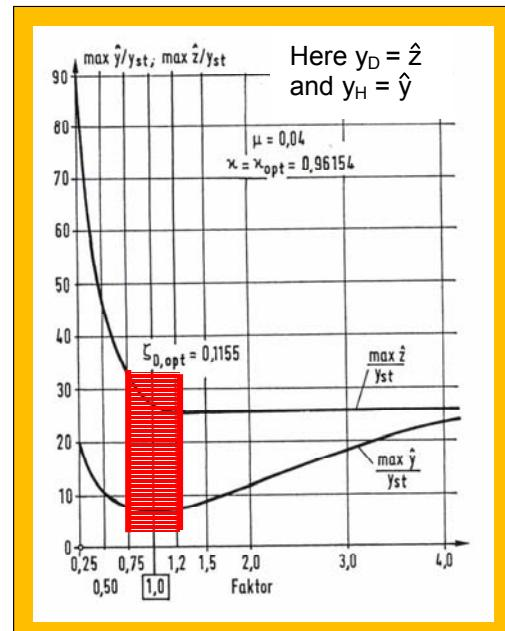

Fig. 9: Deviation of damping with resulting changes of structure and TMD amplitudes for $\mu = 0,04$
Example: In case the deviation of damping is within the range of $\pm 25\%$ to the optimal values (see area marked in red in Fig. 9), there is minor influence on the overall efficiency of the TMD! In Fig. 9 consequences of damping deviation factor on horizontal axis) on the vibration amplitudes of the structure (index y ; lower curve) and on the TMD (index z ; upper curve) are shown. In general significant changes in amplitudes of the main structure will result due to deviations greater than $\pm 50\%$. Therefore damping is important, but the structure will react not such sensitive to deviations to the optimal damping values.
- 3) The damping is less important than the above two criteria, as there the biggest deviations are acceptable without creating a significant loss in efficiency (Fig. 9).